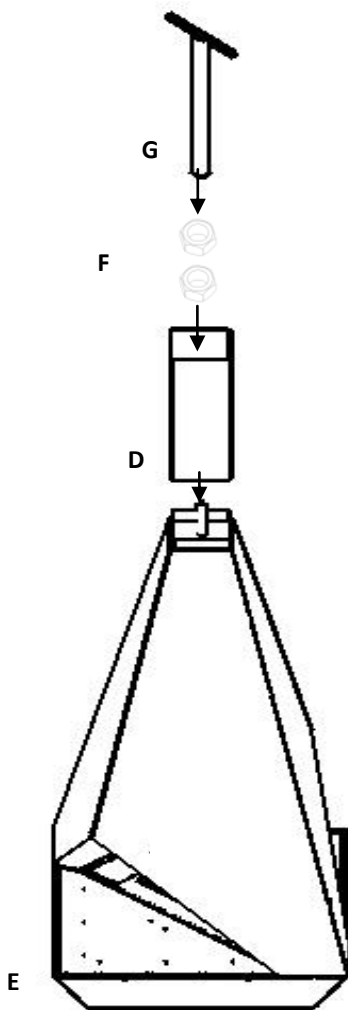

Figure 2— Assembly representation
Assemble the body by placing the tube (D) so that it engages the top of the structure (E). Then tighten the D + E assembly with a two nuts (F) and tighten with the wrench (G) (nuts and wrench supplied), as shown in figure 2.